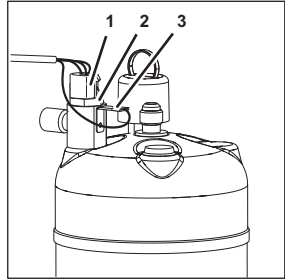

Figure 104
1. Disconnect the plug (Figure 104/1) from the level electrode (Figure 104/2).
2. Disconnect the earth cable (Figure 104/3).
6. Connect the earth cable (Figure 104/3).
7. Connect the plug (Figure 104/1) to the level electrode (Figure 104/2).